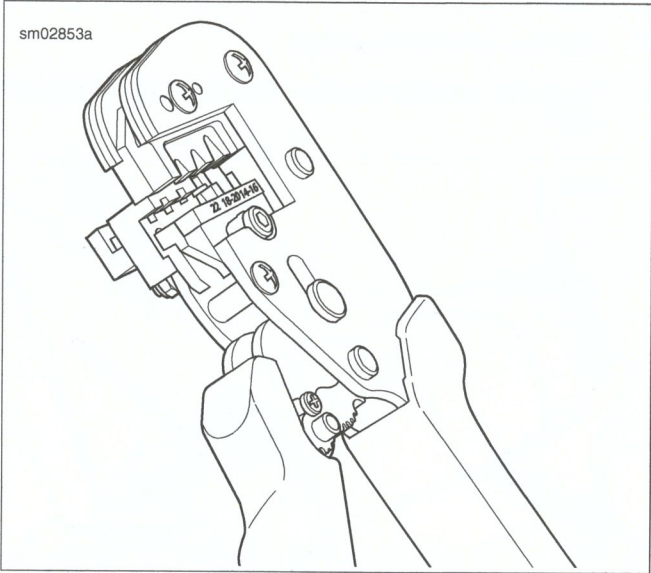

Figure A-17. Open Terminal Crimper (HD-48119) at 45 Degrees
3. See Figure A-17. Hold fully open tool at approximately 45 degrees.